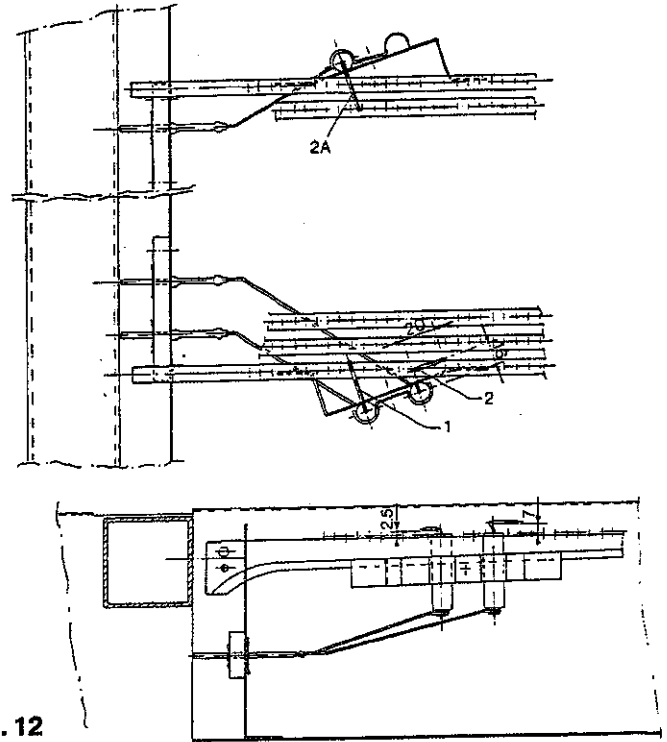

Fig. 12
8. Sensing Electrode (see also Fig. 12 for secondary ionisation electrode).
rectly positioned as shown in Figs. 12 and 13. If the position or gaps are not correct the electrodes must not be bent, but exchanged for replacement parts.